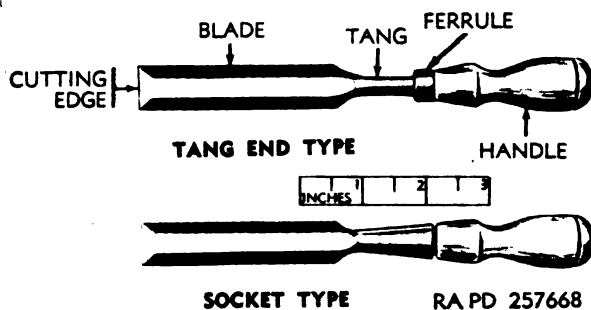

Figure 198. Woodworker's chisels.
171. Purpose of Chisels (figs. 198 and 199)
a. Woodworker's Chisels. Woodworker's chisels (fig. 198) are made in a variety of sizes, ranging from a $\frac{1}{8}$ -inch blade width up to 2 inches wide, and blade lengths from 2 to 6 inches long. Woodworker's chisels have a beveled cutting edge. The construction of woodworker's chisels is either the socket type or the tang end type. The socket type has the blade and handle socket forged from one piece of high carbon steel. The end of the handle is inserted into the socket. The tang end type is also forged in one piece, but the handle is drilled and the tang is inserted into the handle, which is reinforced with a ferrule or metal band. The socket type is usually used for very